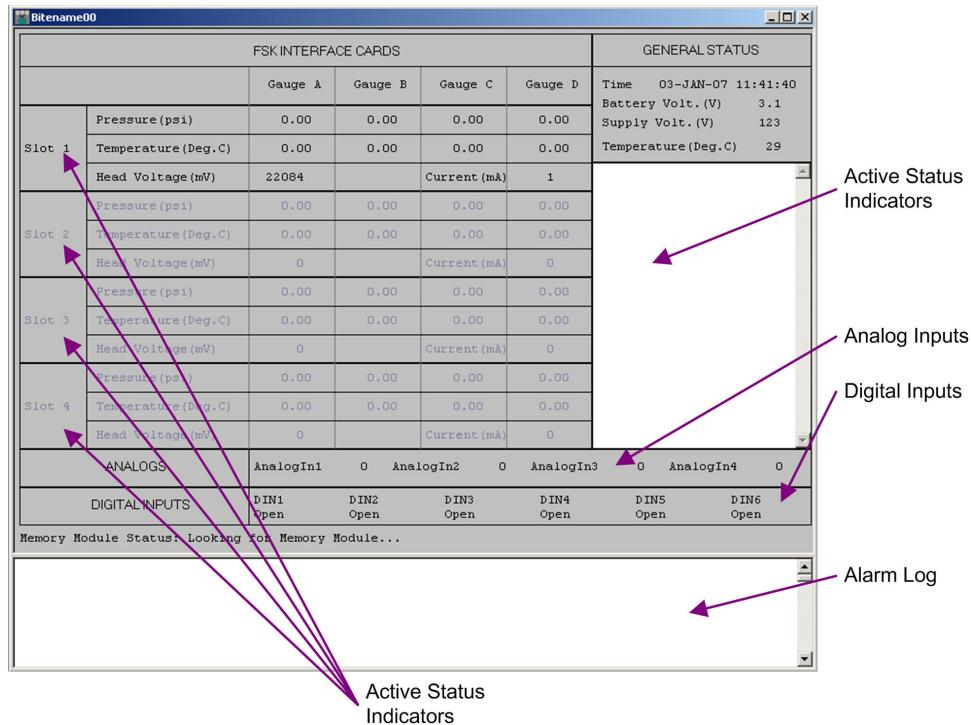

Figure 6-69: WellWatcher Mode Site Window
Once the UniConn is configured the windows and menus should appear as shown in Figure 6-69. If the screen do not appear as those described below, then the configuration needs to be reviewed as detailed in 6.13.6.1: Configuration process.
7. The site window should now look like Figure 6-69.